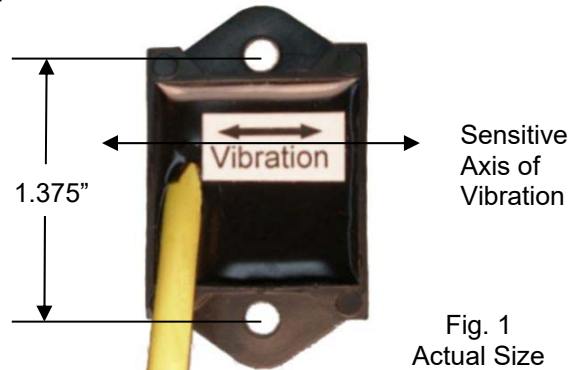

Fig. 1
A. ORIENT THE SENSOR so that its sensitive axis is in the same direction as the vibration of the feeder. The double-ended arrow in figure 1 shows
- 6) Remove the vibration sensor from its protective packaging. Remove the liner from the adhesive backing. Avoid touching the tape. Align the sensor as shown in figures 1 and 2. Apply the vibration sensor to the prepared area of the feeder. Press the sensor very firmly onto the feeder surface for at least 10 seconds.